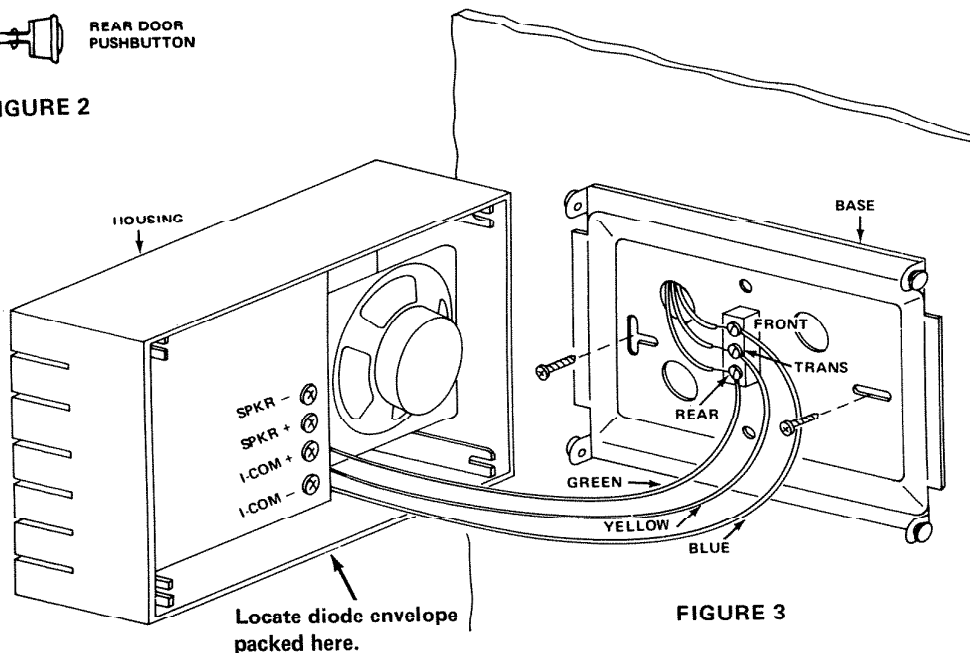

FIGURE 3
4. Determine whether you want the LA-52 to hang vertically or horizontally. Pull the remaining wires through whichever large hole in the base plate that provides the best coverage of the wall cavity. See Figure 3.
3. Bring the wires through one of the large holes in the LA-52 base plate. Fasten the base plate to the wall with screws. If it is mounted vertically, use the two slotted holes — T-shaped slot at the top. See Figure 3.
To adjust the LA-52's volume over the radio intercom, use a screwdriver to turn a recessed control just below the I-COM terminals on the circuit board. See Figure 3.